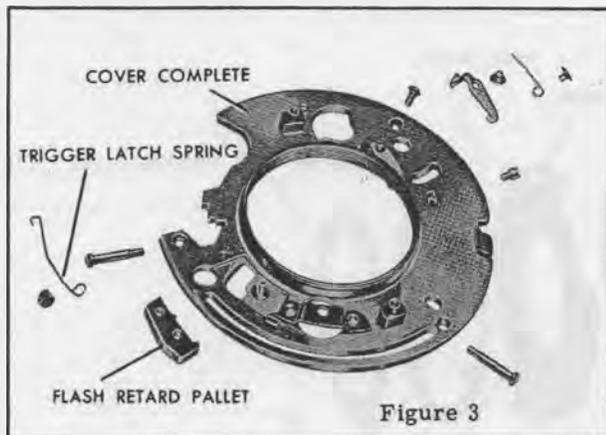

Figure 3
It may be necessary to reduce the tension on the TRIGGER LATCH SPRING, figure 3.
Trip the shutter and lightly hold the winding lever down around the central collar on the cover. As the shutter is tripped, the end of the latch should fall into the slot on the cover. If it does not, add more tension on the **TRIGGER LATCH SPRING**, figure 3. Check for a bind between the trigger latch and the **TRIGGER ASSEMBLY**, figure 5, at the point of attachment. The winding lever should contact the trigger latch; push the latch out of the slot in the cover and open the shutter blades. After the shutter has been tripped, the latch should return to a position where it is resting on the ledge just above the small slot in the cover.
4. **TRIGGER LATCH SPRING**, figure 3.
7. **FLASH RETARD PALLET**, figure 3.
9. **COVER COMPLETE**, figure 3.